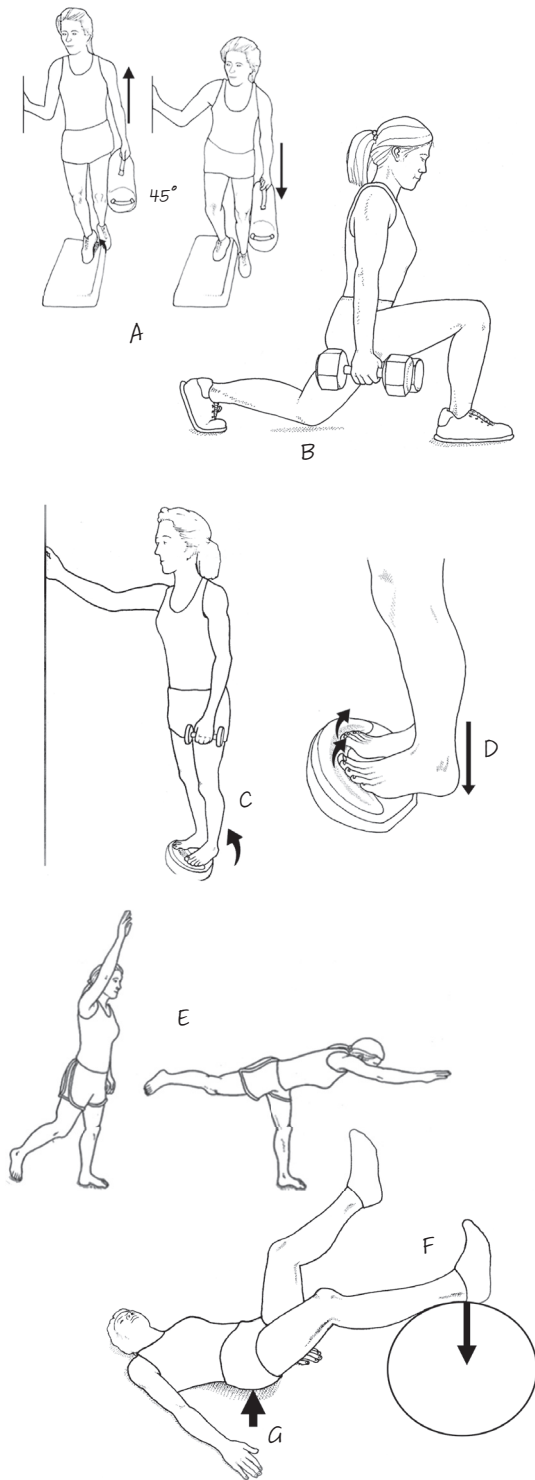

Fig. 4.6. *The best exercises to improve tendon resiliency.*
Lastly, because isometric contractions performed with muscles maintained in their lengthened positions have been proven to enhance tendon resiliency, I've outlined a few simple exercises that you can do in five minutes or less to keep your muscles and tendons strong and supple (Fig. 4.6). Whether you run a marathon in two hours or six hours, these exercises can help improve performance and reduce your risk of injury.
To improve resiliency in your glutes and quadriceps tendons, warm up with 25 lateral step-ups (Fig. 4.6, A). Next, move into a long-step forward lunge position and hold this position with your back knee held slightly off the ground (Fig. 4.6, B). This exercise places less stress on your knee than conventional lunges (17), and in addition to placing the glutes and quads in the forward leg in their lengthened positions, the rectus femoris in the back leg is isometrically tensed in a lengthened position. Maintain this position for 20 seconds and repeat four times. A resilient rectus femoris tendon is essential for fast running, as it snaps the trail leg forward to initiate swing phase.
doing 25 repetitions on the ToePro (Fig. 4.6, C) and then slowly lower your heels so they are $\frac{1}{2}$ " from the ground (Fig. 4.6, D). Hold this position isometrically for 20 seconds and repeat that routine four times. With each set, alternate between raising and lowering your arch to isolate different tendons: Your peroneals are lengthened when your weight is on the outside of your foot, while your tibialis posterior tendon is lengthened when your foot is rolled inward. If you don't want to use a ToePro, you can do this exercise by leaning forward into a wall while standing on an AIREX balance pad. With all of these exercises, you need to be fatigued when you finish, and so stronger runners may need to wear a weighted backpack or hold a dumbbell.
The most effective exercise to improve resilience in the glutes and hamstrings is the single-leg push-down. Before performing this exercise, warm up with a standing windmill exercise, illustrated in Fig. 4.6, E. After you're warmed up, lie face up on the floor with your arms out for stability, then place your foot on a physioball or workout bench and push-down with your heel (Fig. 4.6, F) with enough force to raise your pelvis off the ground (Fig. 4.6, G). Try to duplicate the position your hip is in during initial contact, which is typically between 20 and 30° of flexion. Hold this position for 20 seconds and repeat four times on each leg. If this exercise is too difficult, bring the opposite knee toward the chest. Conversely, if you're not fatigued after 20 seconds, straighten the opposite leg so it is closer to the leg that is pushing down, which makes the exercise significantly more difficult. This exercise duplicates the position your foot is in just before initial ground contact and markedly strengthens the hamstring tendons, which are important for both shock absorption and storing and returning energy.